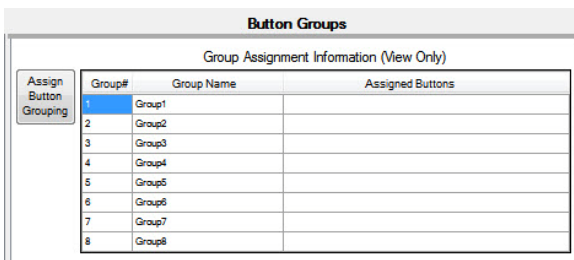

FIG. 47 Button Groups options
2. Select **Button Groups** in the Content area. The Button Groups options appear (FIG. 47).